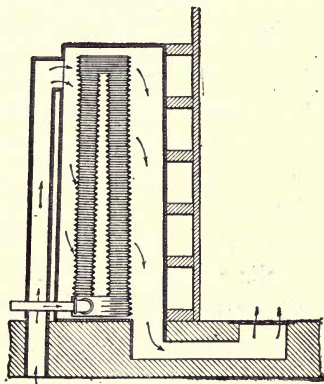

FIG. 174.—Indirect Heating System.
**385. Indirect Method.**—The indirect method of heating (Fig. 174) is the more effective system for large buildings and schools. The heater is generally placed in a cellar or basement. The air is passed over its surface of pipes, and is then directed by a distributing system of sheet iron or tin pipes up into the rooms to be warmed. Heating has the effect of circulating the air in the conducting pipes. The air may, too, be forced into the circulating pipes by a blower or fan located in the cellar. The well-known hot-